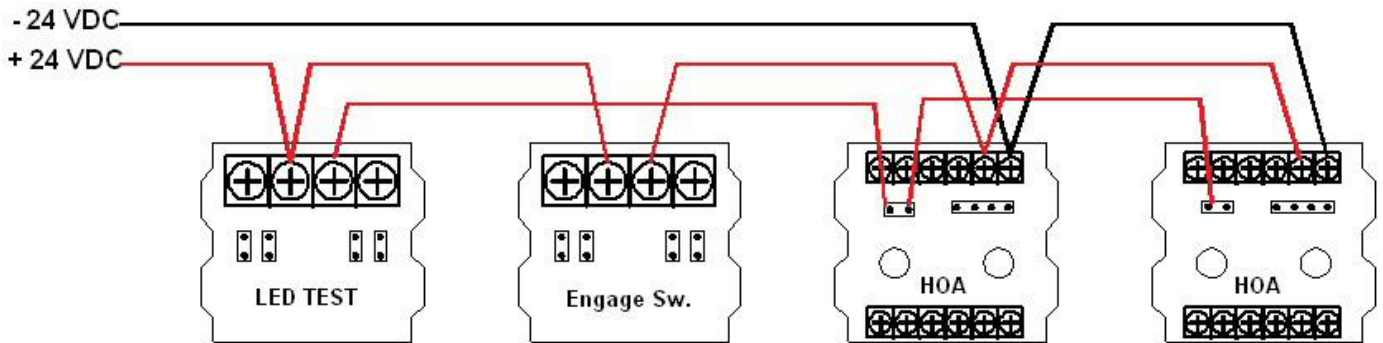

Figure 1
1. Before mounting Frame to the back box, terminate the wires per your application (See Figures 1 & 2 on page 2). **Make sure system is powered down!**
If an ICMLEDTest Module is installed, the LEDs should light when the switch is activated, regardless of the state of an ICMENGAGE Switch (if installed). If an ICMLEDTEST Module and an ICMENGAGE Key Switch Module are supplied as part of the overall *Infinity* ICM Package, the ICMENGAGE Key Switch module must be wired electrically after the ICMLEDTEST Switch (see Figure 1).